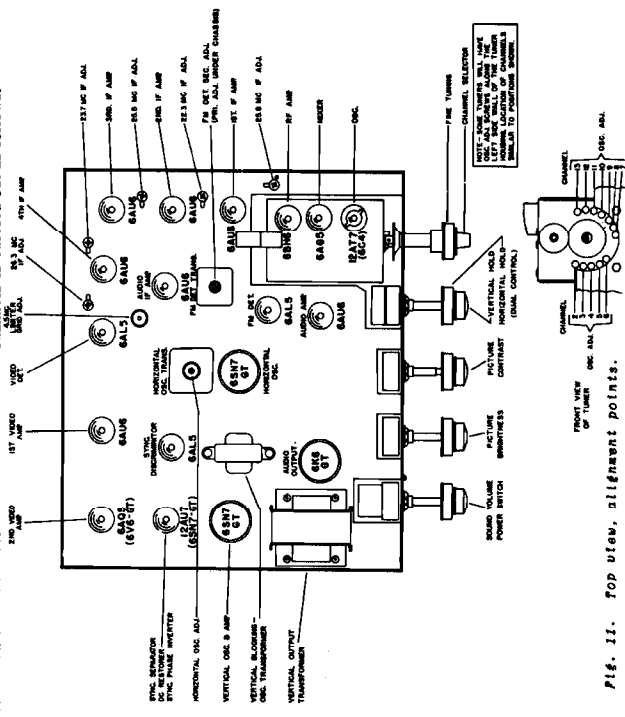

Fig. 11. Top view. Alignment points.
1. Advance the HORIZONTAL DRIVE control (clockwise) as far as possible without causing crowding of the right hand side of the test pattern or producing picture instability. Insufficient horizontal drive will cause the raster to fall short of filling the mask horizontally. Should the HORIZONTAL HOLD control fail to hold the test pattern in the normal manner, set the HORIZONTAL HOLD control in the middle of its range and adjust the HORIZONTAL OSC. ADJ. screw for horizontal sync. (See Fig. 11 for location).